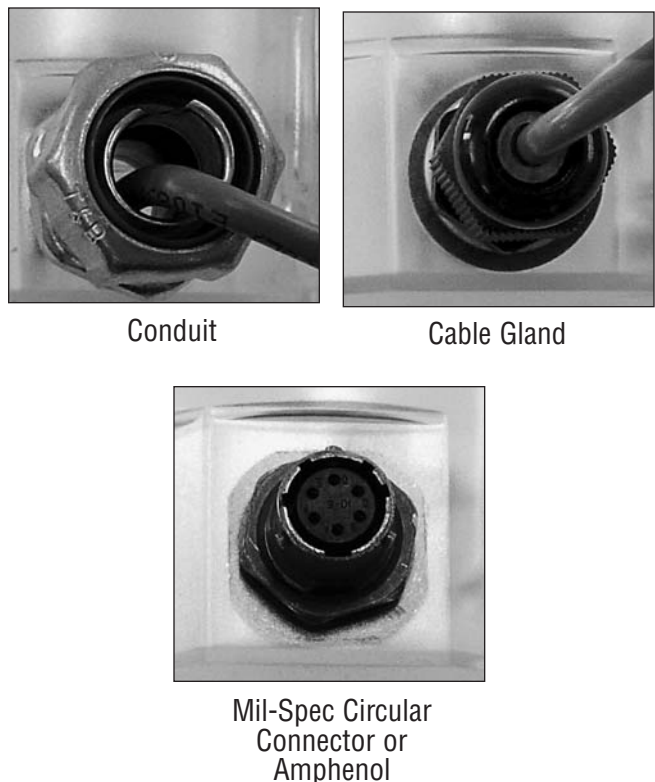

Figure 4 - Pulsar Connector Versions
ROOTS® Pulsers generate low frequency pulses for remote volume data collection. Pulsers are available with Single or Dual Mil-Spec (MS) circular connectors, a liquid tight conduit fitting, or a cable gland connection as shown in *Figure 4*.
The ICEX is available with a Single MS style circular connector, a liquid tight conduit fitting, or a cable gland connection (As shown previously in *Figure 4*). *Table 5* provides wiring information for the ICEX.